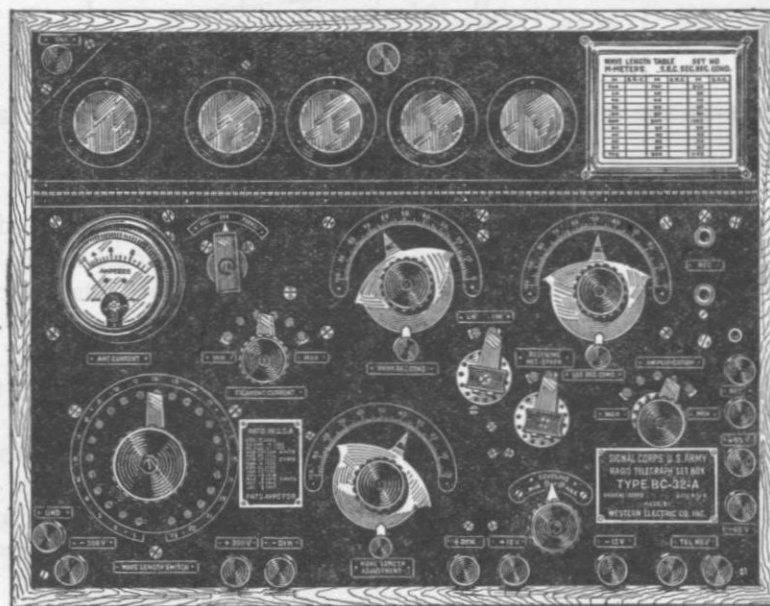
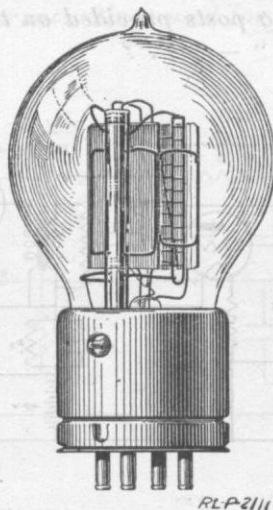
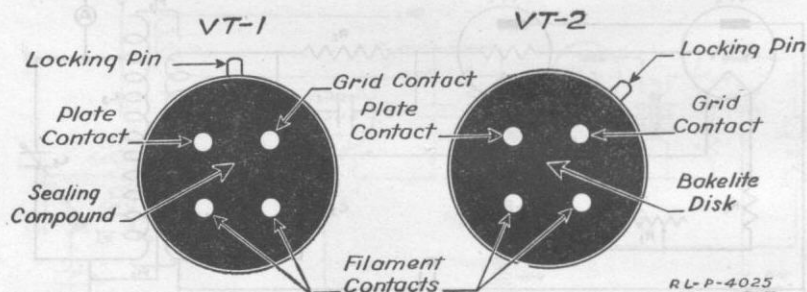

Fig. 68.—Set box BC-32-A of the SCR-79-A set.
Fig. 69.—The type VT-2 vacuum tube.
Fig. 72.—Relative positions of locking pins on type VT-1 and VT-2 vacuum tube bases.
The SCR-79-A is a vacuum tube set (see Fig. 68) designed for transmitting undamped wave signals and for receiving either damped or undamped signals. The wave length range of the set, for both transmitting and receiving, is from 500 to 1,100 meters. Two VT-2 vacuum tubes (see Fig. 69) are used in the transmitter and three VT-1 tubes are used in the receiver. Two sets of this type can communicate over a distance of about 30 miles.
2. Look at the VT-2 vacuum tube (See Fig. 69) and note how it is constructed. The filament, grid, and plate are somewhat similar to the elements of the VT-1. Notice, however, that they are spaced differently. The wide spacing of the plate in the VT-2 is necessary on account of the high voltage used. Compare the base of the VT-2 with the base of the VT-1. (See Fig. 72.)